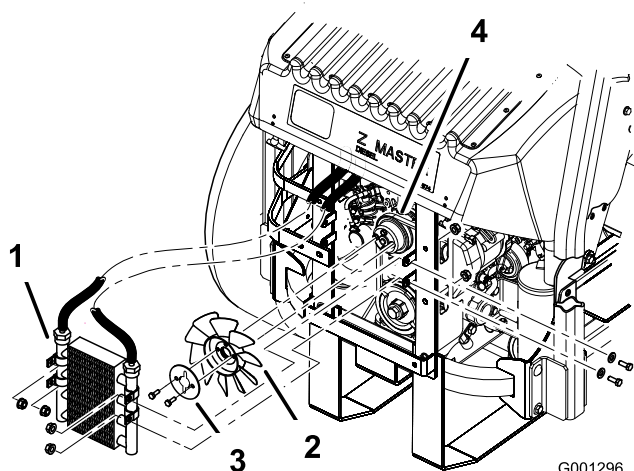

Figure 64
- Remove the 4 bolts holding the oil cooler and position the oil cooler to the side (Figure 64).
- Remove the 2 bolts holding the fan and fan plate to the machine (Figure 64).
- Install the fan and fan plate to the machine with the 2 bolts previously removed (Figure 64).
- Install the oil cooler with the 4 bolts previously removed (Figure 64).